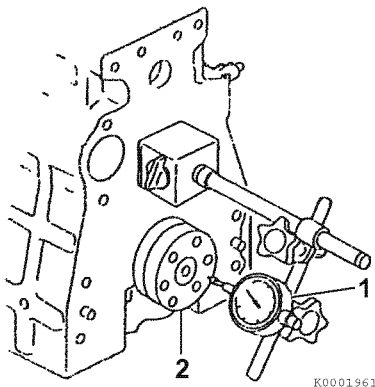

Figure 6-105
- **Method A:** Install a dial gauge (1, **Figure 6-105**) on the cylinder block. Move the crankshaft (2, **Figure 6-105**) in and out to measure the end play. Record the measurement.